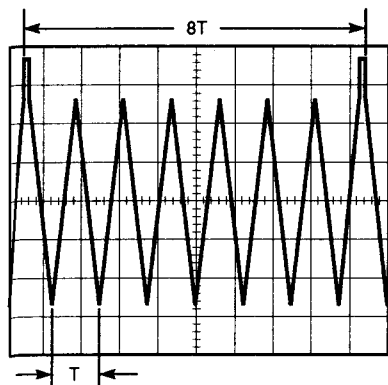

Fig. 5-1-1
- Adjust VR2 so that the phase of the Reset Pulse becomes 8T as shown in Fig. 5-1-1.